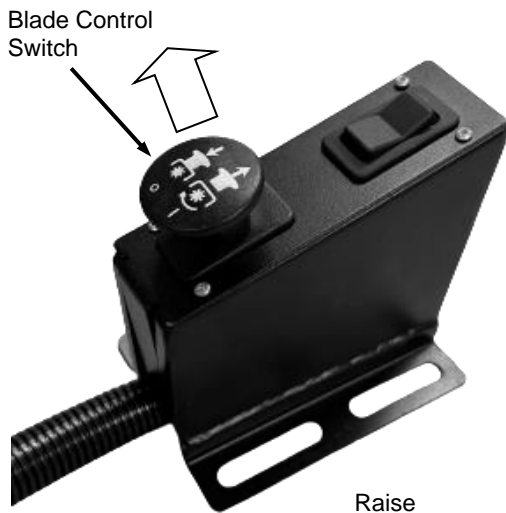

Figure 36
1. Engage Blades by pulling up on Blade Control Switch (**Figure 36**).
1. Push down on Blade Control Switch (**Figure 36**).